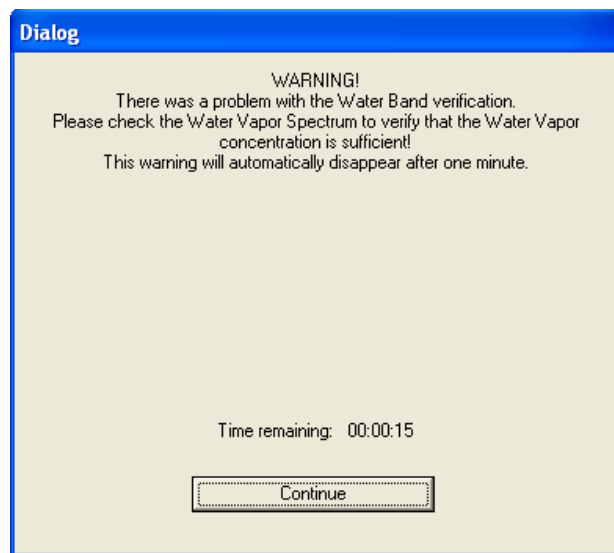

Figure 67: Warning Message regarding the Water Vapor Concentration
- If the warning message shown in figure 67 appears, it is highly recommended to check whether the current water vapor spectrum (with the following file name, for example: *PQ_Tensor_37_External_Port_D316-025_Hyperion_WnAccuracy.x*) is OK. You will find the spectrum in the following directory: